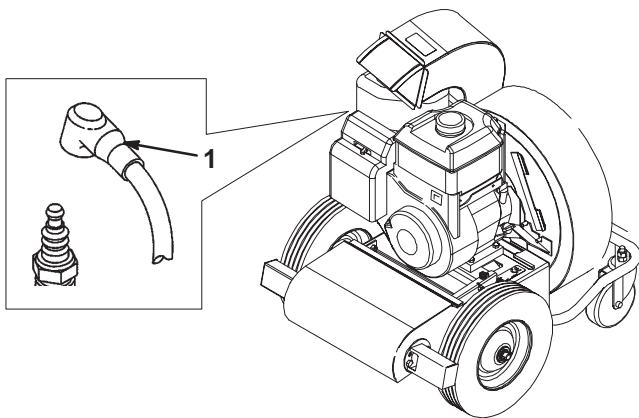

Figure 18
Disconnect the wire from the spark plug (Fig. 18) before you do any maintenance. Set the wire aside so that it does not accidentally contact the spark plug.
1. Park the machine on a level surface, stop the engine and pull the wire off of the spark plug (Fig. 18).
2. Pull the wire off of the spark plug (Fig. 18).